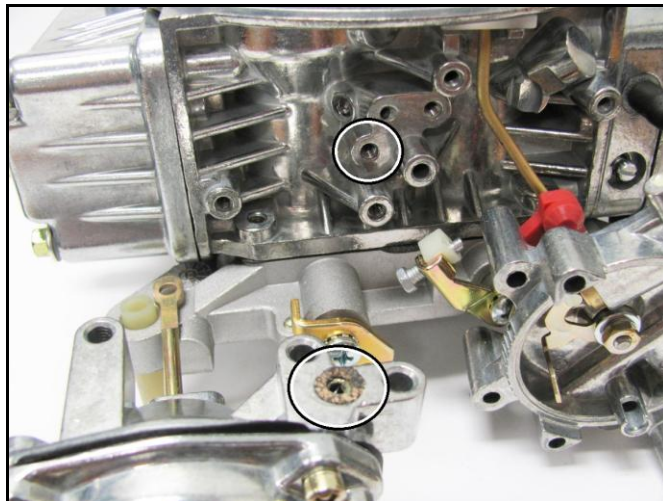

Figure 4
4. Once the secondary housing is removed, you may find residue of the cork o-ring gasket that seals the housing to the carburetor. Clean off any gasket residue left on the carburetor and on the lower vacuum housing (**Figure 4**).